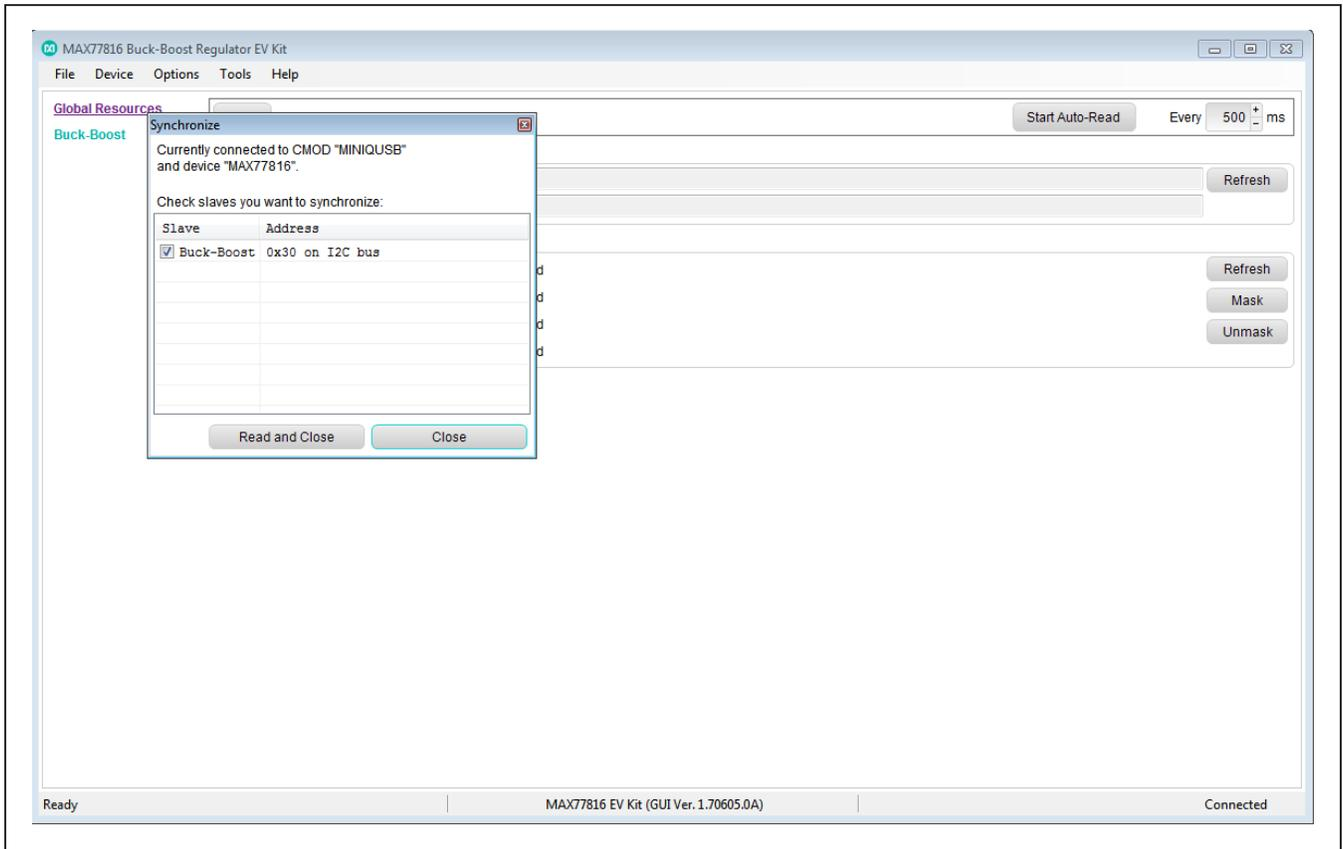

Figure 3. MAX77816 EV Kit Software Window (Connect)
- 9) Start the EV kit software by opening its icon in the **Start | Programs**. The EV kit software main window appears. Click on **Device** then **Connect**. If connection is successful, a window displaying the message **Currently connected to CMOD “MINIQUSB” and device “MAX77816”** appears as shown in Figure 3. Click **Read and Close**.